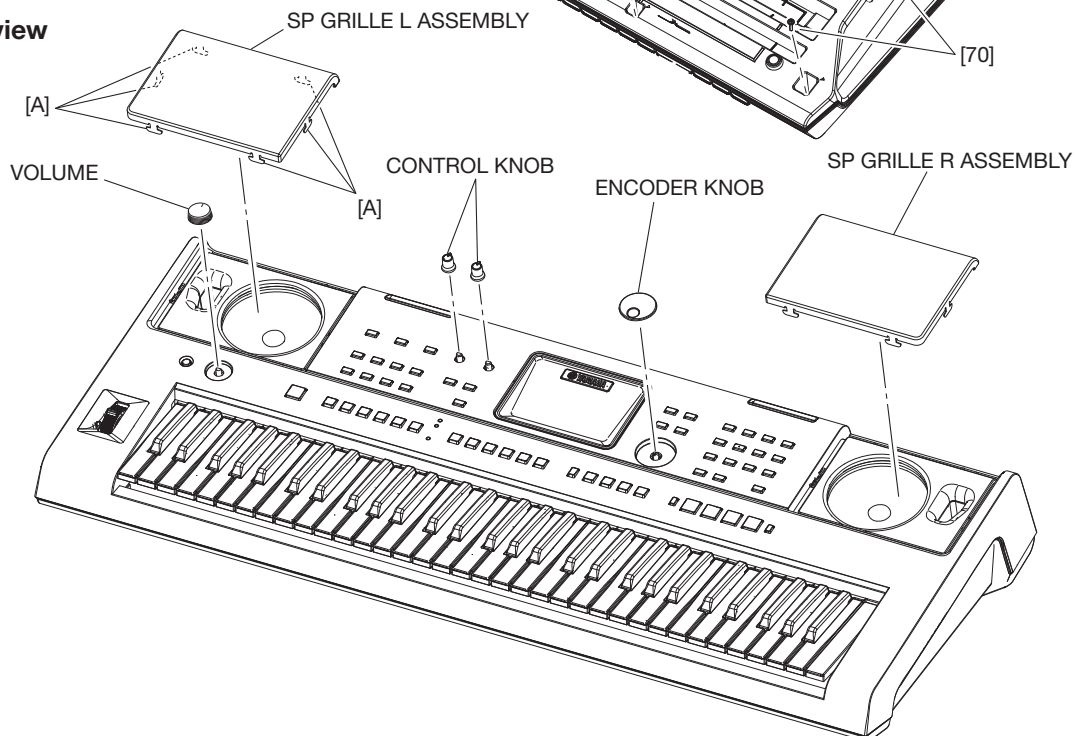

Fig.1
1. Remove the 8 screws marked [70], the 6 screws marked [75] and the 5 screws marked [80]. The Lower Case Assembly can then be removed. (Fig.1)
* When installing the lower case assembly, first tighten the screw marked [75A] and then the remaining screws. (Fig.1)